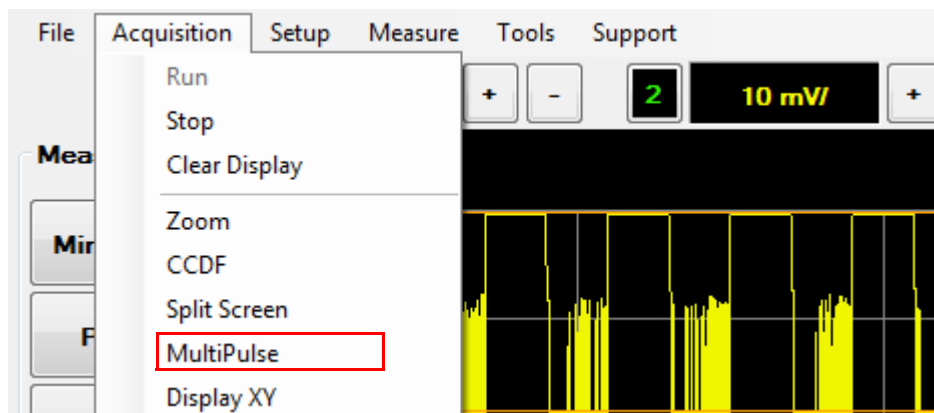

Figure 2-90 MultiPulse selection in the Acquisition menu
- 1 Select **Acquisition > MultiPulse** on the toolbar as shown in Figure 2-90.